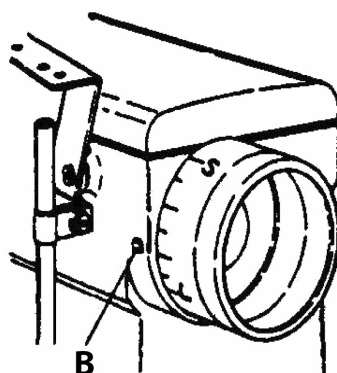

Fig. 2
When getting graduation "L" closer mark (B) by turning hand wheel to the right, the stitch length becomes long. (Fig. 2)